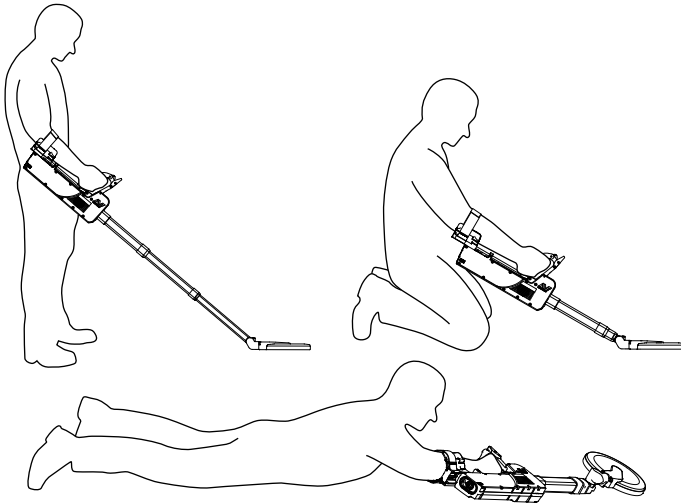

Figure 7: F3Ci in the standing, kneeling or prone positions
- f. Extend the Lower and Middle Shafts to suit the selected demining position as shown in Figure 7.